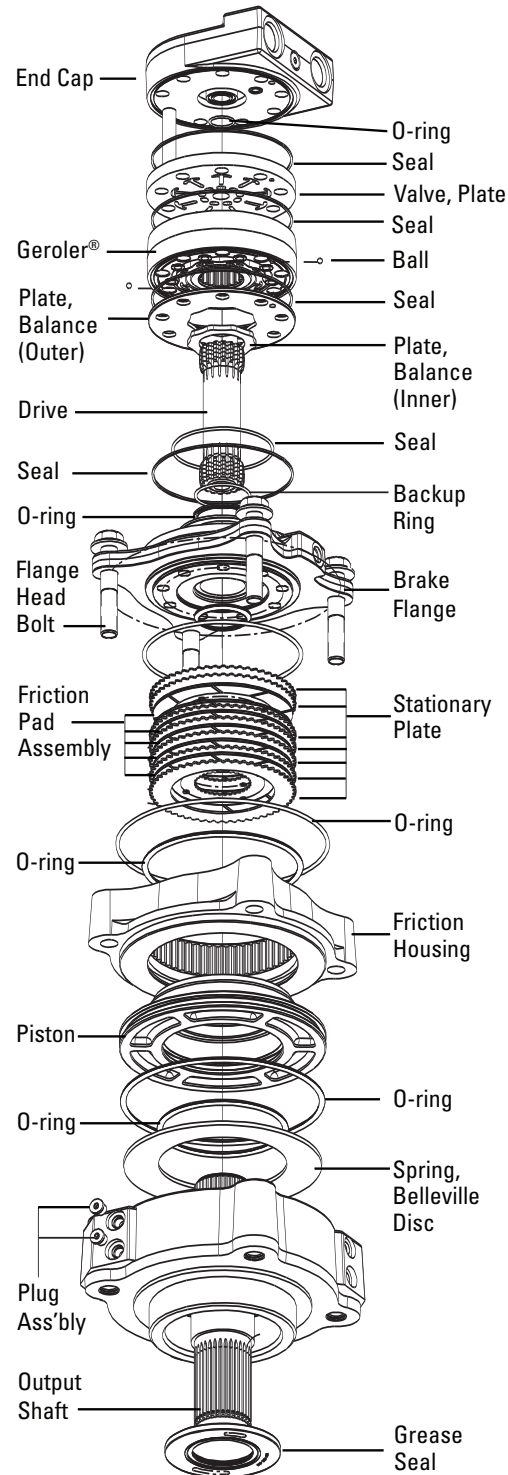

Figure 1 - VIS 40-004
2. Remove the nine 12PT screws and disassemble the motor in the vertical position as shown in Figure 1. Note placement of small ball checks in Geroler® star.